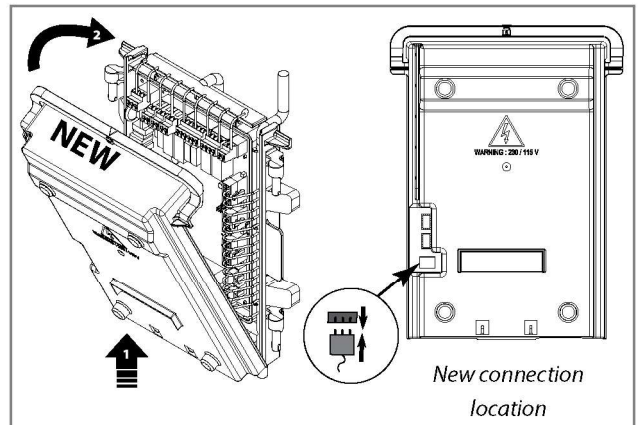

Fig. 11 - Prestige Solo & Excellence - Installation of new Front Cover
12. Install the new control box front cover (See Fig. 11).
13. Connect the brown ionization cable at the front of the control box (See Fig. 11).